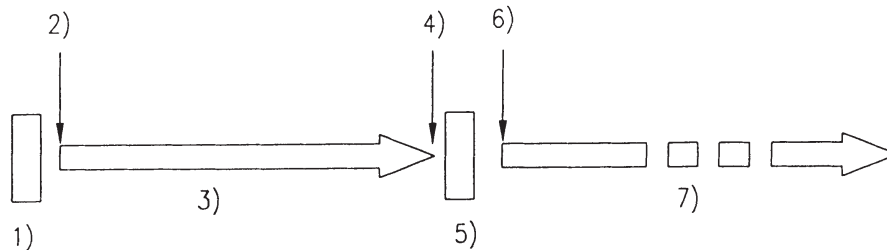
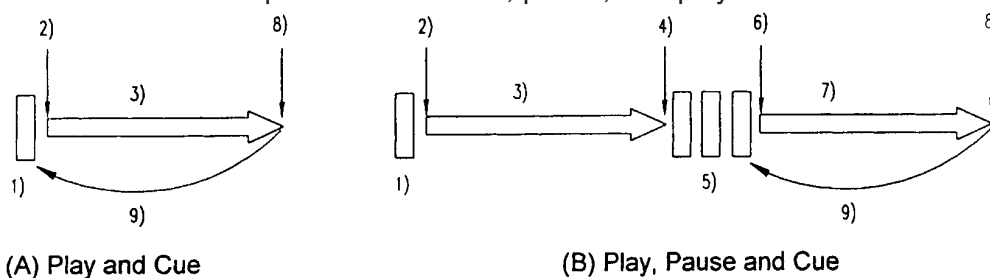
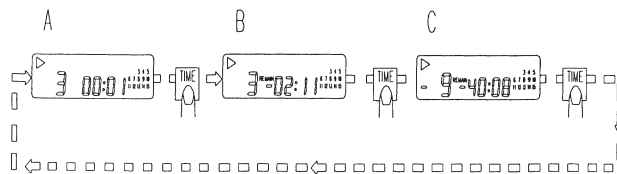

Figure 12
Figure 13
Fig. 14
- Figure 12 shows the relationship between the play and pause.
- Figure 13 shows the relationship between the play and back cue operations.
- There are two (2) ways to set a CUE point:
- Figure 13 shows the relationship between the cue, pause, and play.
- This feature allows you to scroll through a track to set a starting cue, sample, or loop point. To use the scroll function you must first be in Pause Mode. While in Pause Mode use the **INNER JOG WHEEL (FIG. 12)** to find your desired starting point by turning the wheel in either a clockwise or counter-clockwise direction. While using the jog wheel the monitor function allows you to hear what you are scanning through. Once you have found your desired starting point, pressing the **PLAY BUTTON (FIG. 13)** locks your cue point into memory. Pressing the **CUE BUTTON (FIGURE 14)** will return you to your set cue point until the disk is removed or a new cue point is set.
### 17. Time Display (see figure 14)